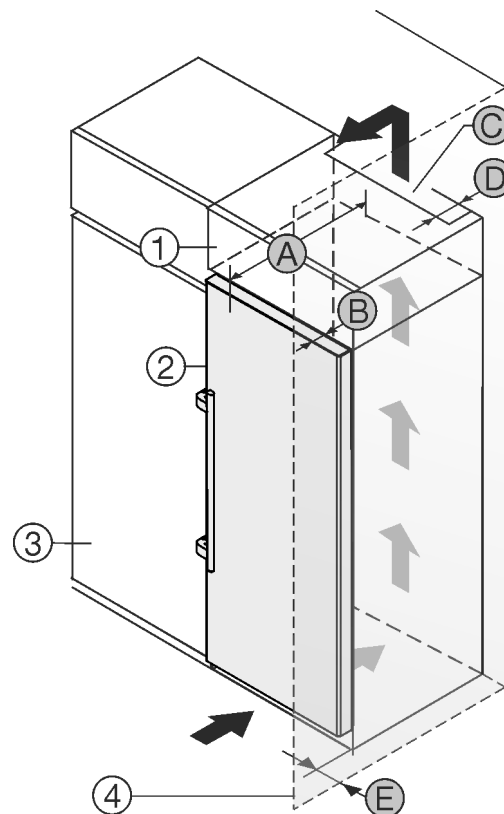

Fig. 1
You can place the appliance directly beside the kitchen cabinet Fig. 1 (3).
There must be a ventilation shaft at the depth Fig. 1 (D) of the back of the top cupboard over the entire width of the top cupboard.
The ventilation cross-section Fig. 1 (C) must be maintained under the ceiling.
If the appliance is set up with the hinges next to a wall Fig. 1 (4), the distance between the appliance and the wall must be at least 57 mm. This is how far the handle protrudes when the door is open.
In order to be able to fully open the door, the appliance must protrude by the depth of the door Fig. 1 (B) from the front of the kitchen cabinet. The appliance may protrude further depending on the depth of the kitchen cabinets Fig. 1 (3) and whether wall spacers are used.